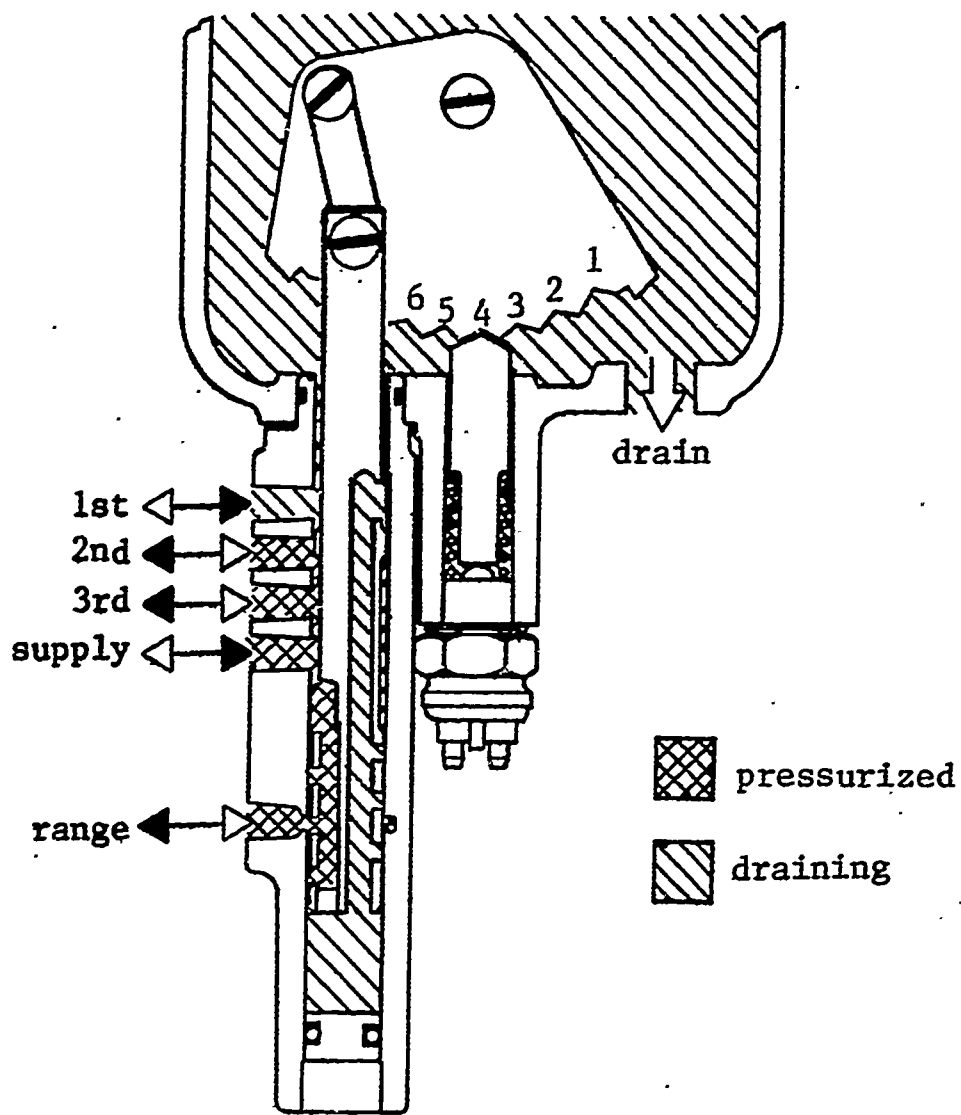

Fig. 6 Control valve in fourth gear
Figure 6 shows the shift control valve in fourth gear position or second reverse. There is pressure in hoses (2), (3) and in the range hose. Pressure in hose (1) is draining off.